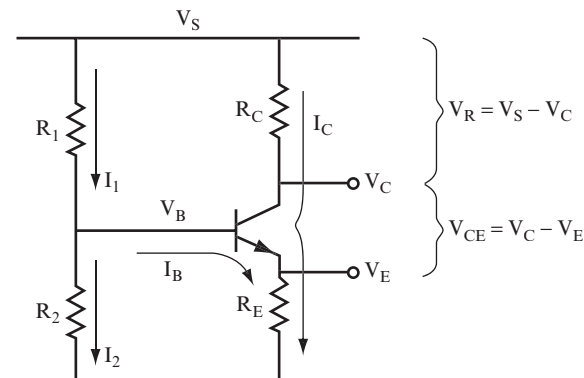

FIGURE 8.6
The labels in Figure 8.6 identify the DC currents and voltages present in the circuit. These parameters are used in the next several problems.
12 Look at the gain first. The gain formula for the circuit shown in Figure 8.6 is as follows:
Use the circuit shown in Figure 8.6 with $R_C = 10 \text{ k}\Omega$ and $R_E = 1 \text{ k}\Omega$ to answer the following questions:
- A.** Calculate the voltage gain (A_v) of the amplifier circuit shown in Figure 8.6 if $R_C = 10\text{ k}\Omega$ and $R_E = 1\text{ k}\Omega$. Then, use A_v to calculate the output voltage if the input signal is 2 mV_{pp} . _____
Although the amplifier circuit shown in Figure 8.6 produces stable values of voltage gain, it does not produce high values of voltage gain. For various reasons, this circuit is limited to voltage gains of 50 or less. Later, this chapter discusses an amplifier circuit that can produce higher values of voltage gain.
14 Before you continue, look at the current relationships in the amplifier circuit shown in Figure 8.6 and an approximation that is often made. You can calculate the current flowing through the emitter resistor with the following equation:
6. Find I_2 where I_2 is $10I_B$. (Refer to the circuit shown in Figure 8.6.) This is a convenient rule of thumb that is a crucial step in providing stability to the DC bias point.